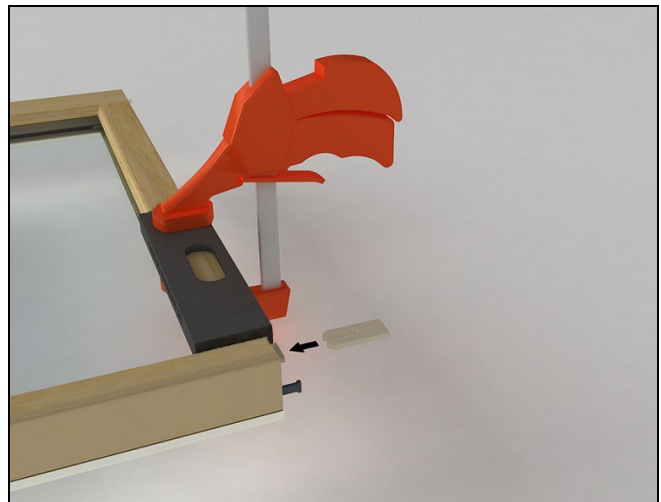

Figure 2
2. Place the non-handed stile jig onto the sash and install the spacer block between the jig and the check rail. Secure with a #7 x 7/8" screw. Do not over tighten the screw the jig may lift on the opposite end. For the 2.0, use a quick grip clamp and secure the opposite end. See Figure 2.